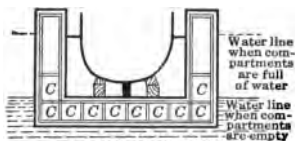

FIG. 31. — Floating dry-dock.
12. A floating dry-dock has 10 compartments. See Fig. 31.